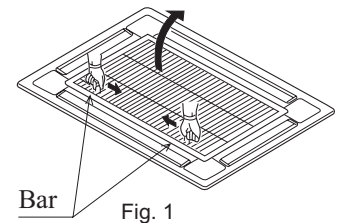

Fig. 1
(1) Remove air inlet grill from ornament panel
- ① Push in the bar on inlet grill and lift it up. (Refer to Fig. 1)